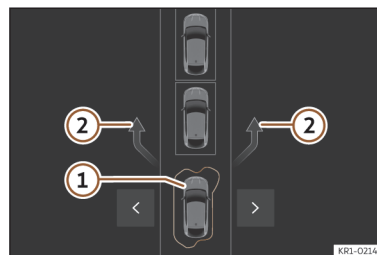

Fig. 143 On the infotainment system display: leaving a parallel parking space.
- Switch on the corresponding indicator, press the arrow for the side of the roadway to exit the space >>> **Fig. 143 ②** and release the brake. The manoeuvre will start immediately.